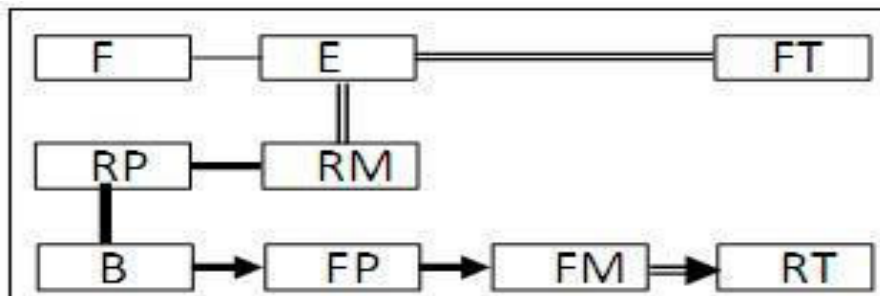

Figure 6a: Mode 1, startup
*In Figures 6a-f all the six modes of operation of front electric and rear hybrid are shown.*